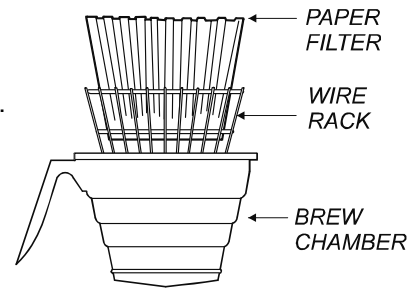

Fig. 8 Preparing the Brew Chamber
4. Remove the spray disk from the brew head (See figure 8): Press up on the spray disk ears, then turn the disk to the left to unlatch. Remove the gasket from inside the brew head.